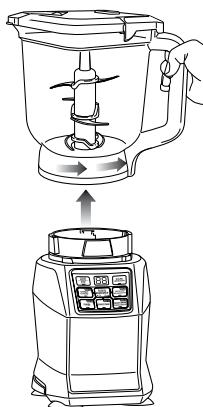

Fig. 7
- 14 Turn the pitcher counter clockwise to remove and then lift off the base. (Fig. 7)